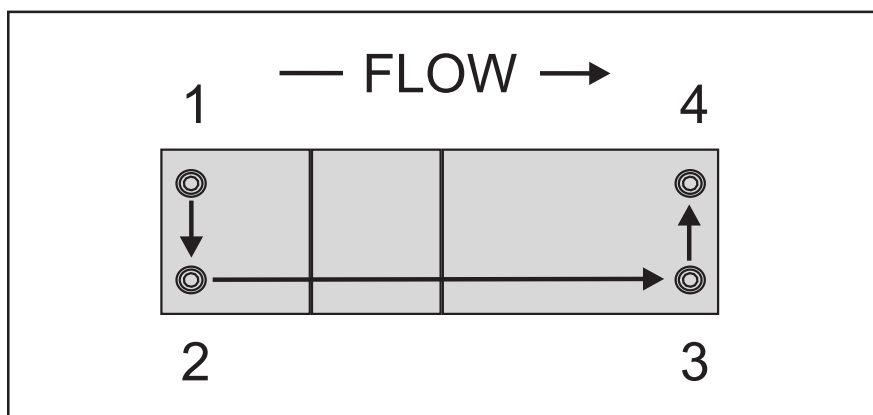

Figure 3-5 Mounting Screws Torque Pattern
- Using a torque wrench and a metric hex key, tighten the screws to the torque value as described in Table 3-2 and Torque Pattern Figure 3-5.